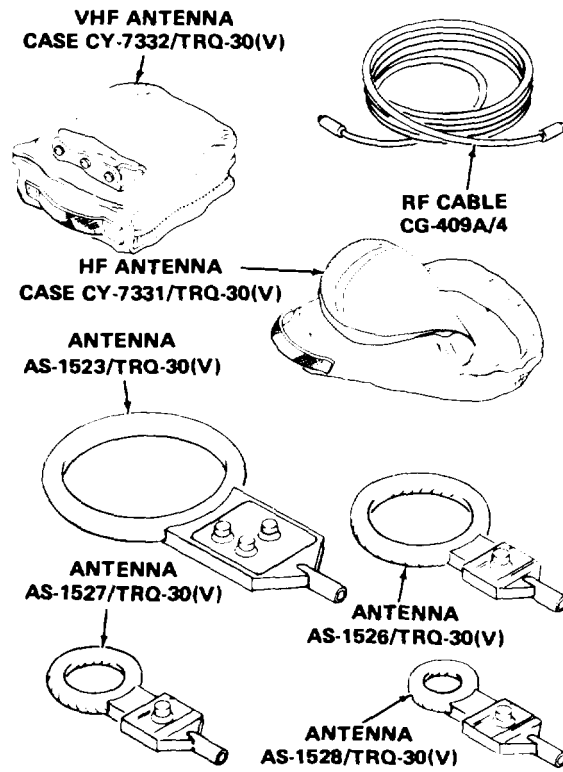
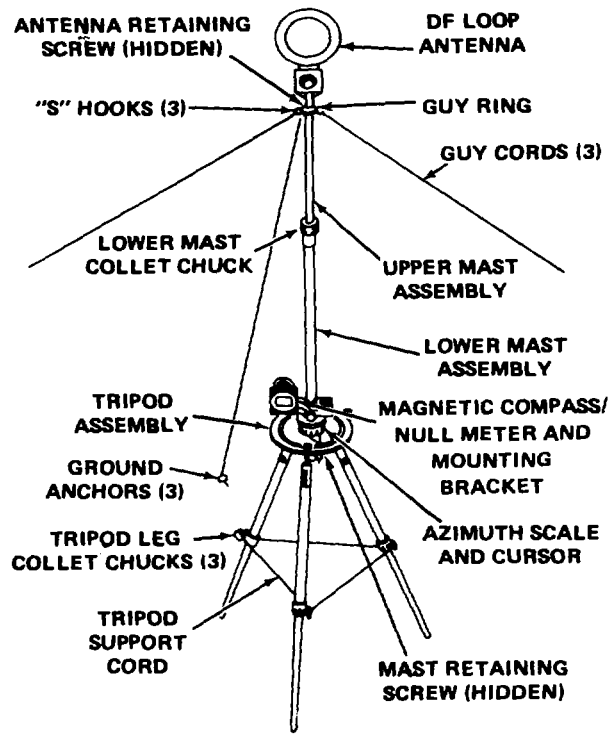

Figure 1-5. Antenna Group, Direction Finder Set AN/TRQ-30(V)
Figure 1-6. Antenna Pedestal AB-1110/TRQ-30(V)
c. *Antenna Group, Direction Finder Set AN/TRQ 30(V)*. Refer to figure 1-5. Antenna Group, Direction Finder Set AN/TRQ-30(V) consists of three different groups: HF Antenna Group AN/TRQ-30(V1), VHF Antenna Group AN/TRQ-30(V2), and HF/VHF Antenna Group AN/TRQ-30(V4). The antenna groups include interchangeable loop antennas and associated support equipment which are used in conjunction with the various configurations of the radio receiver set. Four loop antennas cover the 0.5 to 157 MHz frequency range and enable the operator to locate the position of transmitters, operating within these ranges, through detection and triangulation methods. The following paragraphs briefly describe the major components of the antenna groups.
(1) *Antenna AS-1523/TRQ-30(V)*. Antenna AS1523/TRQ-30(V) is an HF loop antenna for direction finding in the 0.5 to 20.5 MHz range. The antenna contains circuitry for band switching and tuning. All operating controls and switches are located on the base of the antenna.
(2) *Antenna AS-1526/TRQ-30(V)*. Antenna AS1526/TRQ-30(V) is an 11-inch diameter VHF loop antenna for direction finding in the 19 to 50 MHz range. The antenna contains frequency matching circuitry operated by a control mounted on the base of the antenna.
(3) *Antenna AS-1527/TRQ-30(V)*. Antenna AS1527/TRQ-30(V) is a 4-inch diameter VHF loop antenna for direction finding in the 45 to 100 MHz range. The antennas contains frequency matching circuitry operated by a control mounted on the base of the antenna.
(4) *Antenna AS-1528/TRQ-30(V)*. Antenna AS1528/TRQ-30(V) is a 7-inch diameter VHF loop antenna for direction finding in the 95 to 157.5 MHz range. The antenna contains frequency matching circuitry operated by a control mounted on the base of the antenna.
(5) *Antenna Pedestal AB-1110/TRQ-30(V)*. The antenna pedestal assembly consists of an antenna mast, tripod, and ground anchors. Figure 1-6 shows the assembly.
(7) *VHF Antenna Case CY-7332/TRQ-30(V)*. The VHF antenna case holds the AS-1526/TRQ-30(V), AS-1527/TRQ-300(V), and AS-1528/TRQ-30(V) VHF loop antennas.
(8) *HF Antenna Case CY-7331/TRQ-30(V)*. The HF antenna case holds the AS-1523/TRQ-30(V) HF loop antenna.